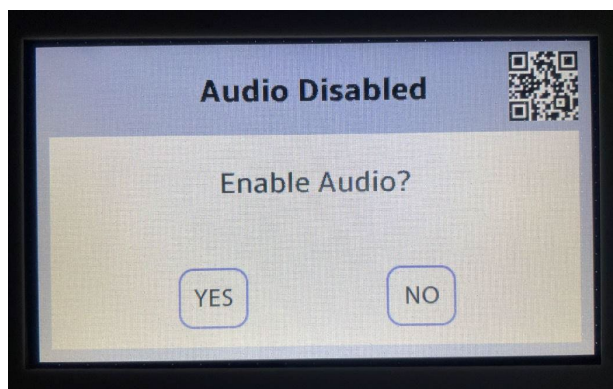

Figure 10 Global Mute Quick Prompt
6. To set Global Mute: tap the speaker symbol to allow audio alerts. Tap the speaker with an "X" symbol to mute ALL audio alerts. If Global Mute is chosen, alert messages will continue to be displayed on the screen, but all audio will be disabled. The Global Mute selection will be reflected on the Home screen, as the speaker symbol with an "X" in the lower right. If the Monitor is rebooted and Global Mute had previously been engaged (audio was disabled), a popup will appear asking the user whether the audio should now be enabled or not (See Figure 10).